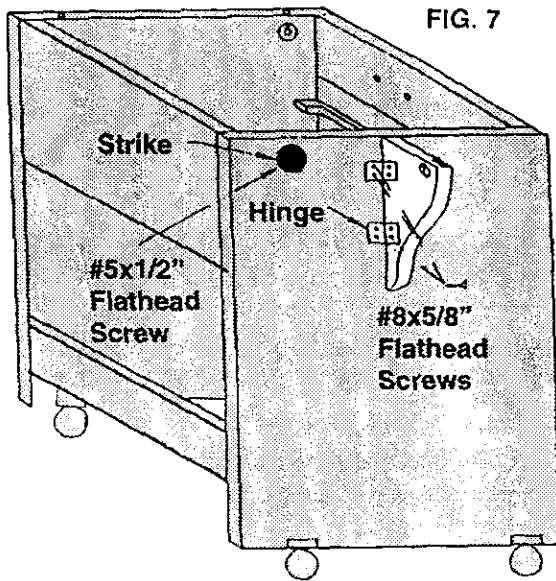

FIG. 7
- STEP 6. Attach the Leaf Support to Left Side Panel with (4) #8x5/8" Flathead Screws, (as shown in FIG. 7). Attach the Bronze Strike to Side Panel with (1) #5x1/2" Screw.